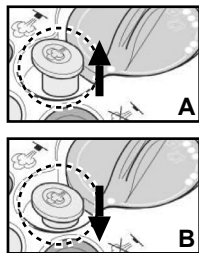

FIGURE 4
IMPORTANT: Make sure Steam Button is locked in lowered position (FIGURE 4-B) before dry ironing. This will prevent any water from accidentally dripping.
3. When Heating Indicator Light turns off, press Steam Button. Button will lock into raised position (FIGURE 4-A), and unit will begin emitting steam from steam vents on Ironing Plate.
4. To stop steam flow during use, press Steam Button again to lock it into the lowered position. This will prevent dripping in the upright position (FIGURE 4-B).